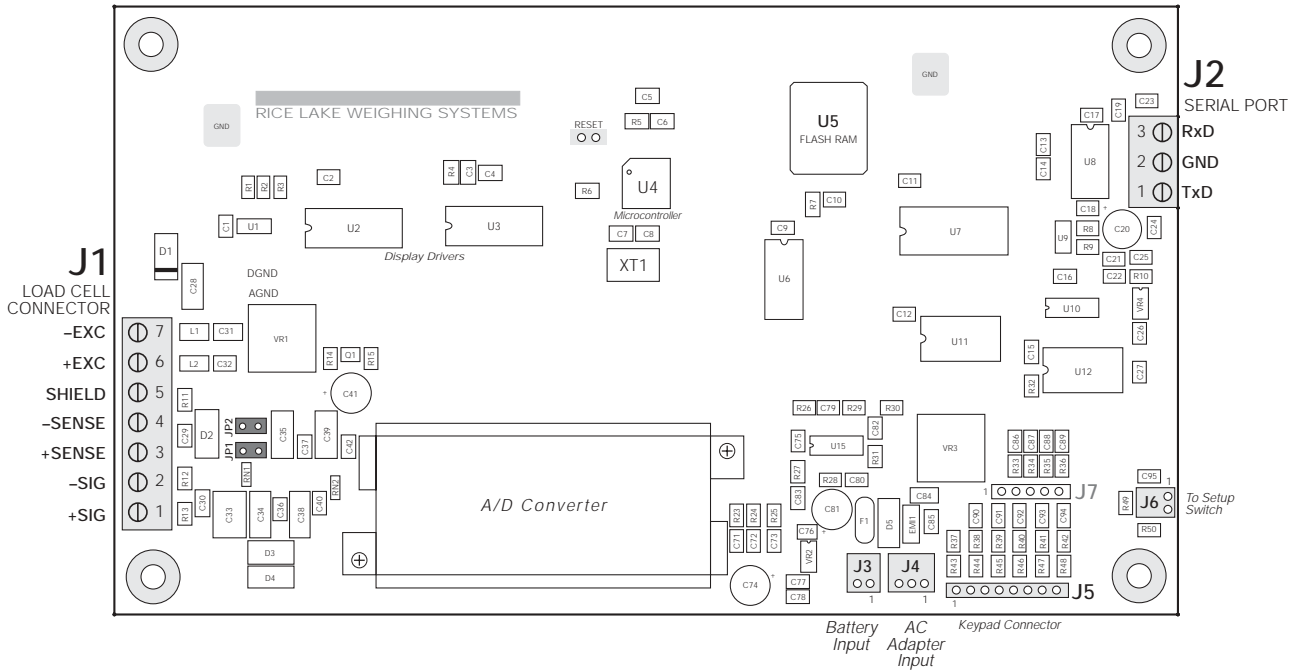

Figure 2-3. IQ plus 390-DC CPU Board
To attach cable from a load cell or junction box, remove connector J1 from the board. The connector plugs into a header on the board. Connect cable from the load cell or junction box through the load cell cable cord grip to connector J1 as shown in Table 2-1. If using 6-wire load cell cable (with sense wires), remove jumpers JP1 and JP2 before reinstalling connector J1 (see Figure 2-3). For 4-wire installation, leave jumpers JP1 and JP2 on.
To attach serial communications cables, remove connector J2 from the board (see Figure 2-3). Connect communications cable through cord grip to connector J2 as shown in Table 2-2.
2. Unplug all connections to the CPU board. See Figure 2-3 on page 6 for connector locations.